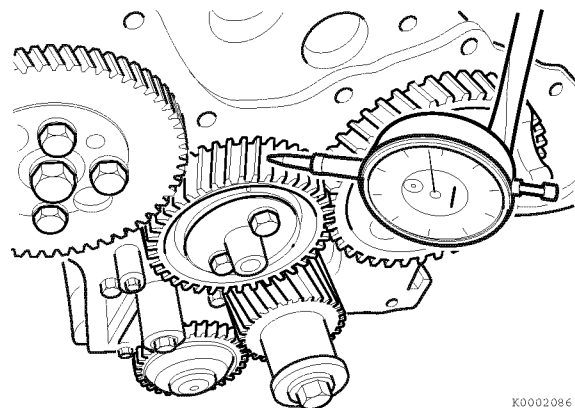

Figure 6-43
1. Install a dial indicator as shown in **Figure 6-43**.